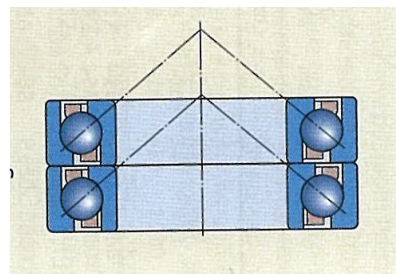

Fig. 9
3. Fit the thrust bearing housing (2470101) on discharge head. Take thrust collar (3630101), clean it thoroughly. Apply appropriate grease to the angular contact ball bearings (2610101). Fit angular contact ball bearing with thrust collar. Check certified cross sectional drawing of the pump for qty. of the bearings; it can be one or two numbers depending on application. For two bearings installation arrangement should be tandem arrangement Refer Fig.9.